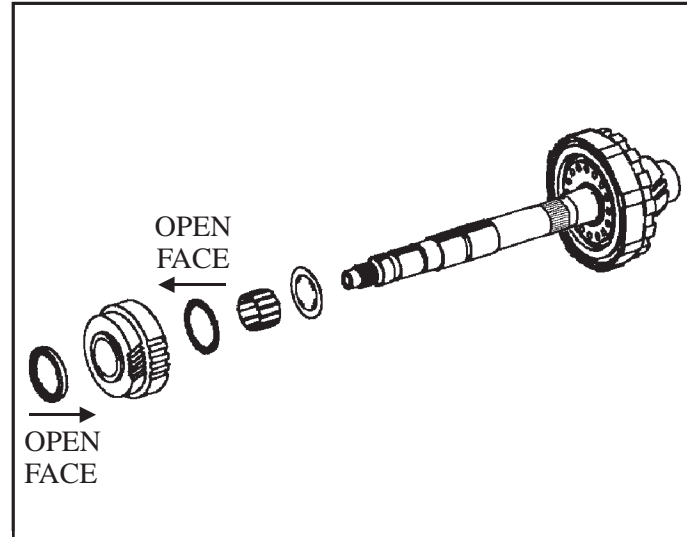

Figure 136
3. Install 4th driven gear thrust washer. The washer has internal splines which key to the splines on the shaft just above the 4th clutch housing. If the housing is not down all the way, the washer will not have splines to key onto (See Figure 136).
4. Install caged needle bearing (See Figure 136).
5. Install the double sided needle bearing thrust washer with the open face towards the 4th driven gear (See Figure 136).
6. Install 4th drive gear by rotating the gear back and forth until all the fiber plates have been keyed and the gear bottoms out onto the thrust washer (See Figure 136).
7. Using petroleum jelly, secure the double sided needle bearing to the 4th driven gear having the open face towards the gear (See Figure 136).